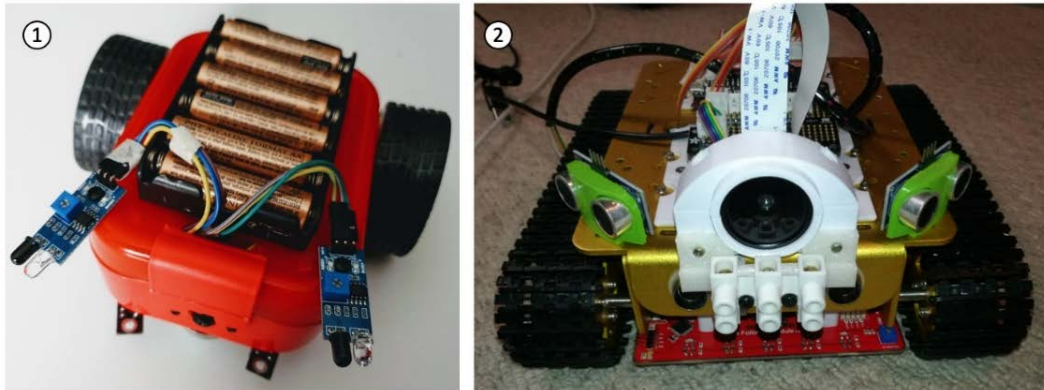

Figure 14.4 – Chassis enhancements
Figure 14.4 has examples of two ways to improve the robot or its sensors with an outer shell:
1. Figure 14.4 (1) shows a lunchbox adapted into a robot. A lunchbox, ice cream tub, or roller paint tray with holes cut into it can be made into the fairing for the robot, enclosing the electronics and holding its wiring and electronics.
2. Figure 14.4 (2) shows a robot with sensor mounts that have been 3D-printed. Custom fairings and brackets can be made this way or through vacuum forming or laser cutting. See the *Design and manufacturing* section later in this chapter.